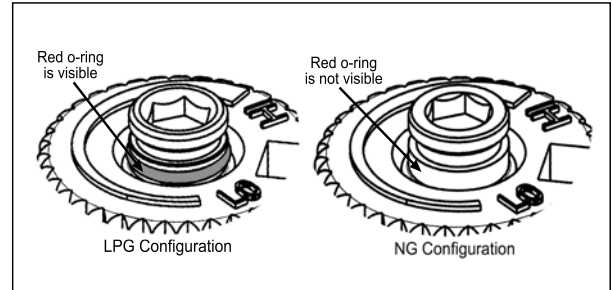

Figure 16: O-ring on valve screw.
f) Verify that if the conversion is from NG to LPG, the screw must be re-assembled with the red o-ring visible (refer to Figure 16). If the conversion is from LPG to NG, the red o-ring of the screw must be not visible.